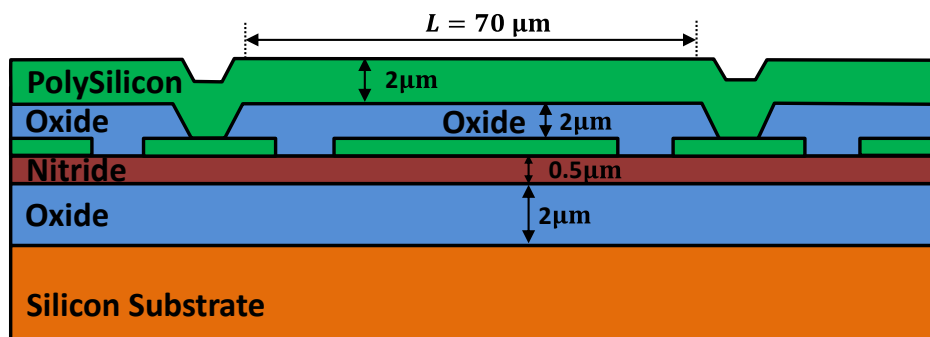

Fig. PS2.2-1
2. Figure PS2.2-1 presents a $2\mu\text{m}$ -thick polysilicon film atop a $2\mu\text{m}$ -thick sacrificial oxide film. The polysilicon beam is initially uniformly doped with phosphorous to a concentration $N_D = 1 \times 10^{15} \text{cm}^{-3}$. Suppose you want to make the beam more conductive by diffusing boron atoms into the n-type polysilicon material. To do so, you first place the wafer into a pre-deposition furnace alongside solid-source boron wafers for 30min at 1000°C . You then drive in the dopants (with no boron source) for 60min at the same temperature.